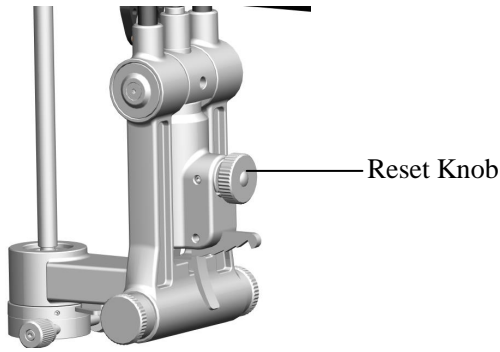

Figure3.4.4
4. Offset illumination. Rotate the centering knob and rotate the slit width adjustment knob in the direction of the arrow to offset the illumination light from the center of the microscope field of view. This is mainly used for indirect inverse illumination methods to check the eyes. Rotate the centering knob and the slit light returns to the center of the field of view (see Figure 3.4.4).